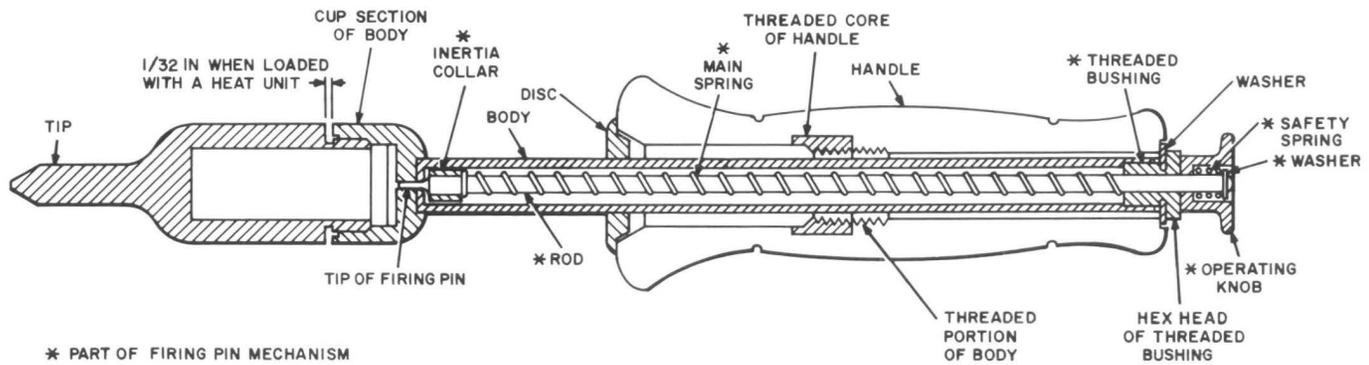

Fig. 2—Section View of KS-14582 L1 Soldering Copper with L5 Tip
3.02 A section view of the KS-14582 L2 soldering copper is shown in Fig. 2. The body of the copper consists of a tube having a cup-shaped section at one end. The heat unit chamber of the tip screws into this cup and a small hole in the bottom of the cup permits entrance of the firing pin to fire the heat unit. The threaded core of the handle screws on the tube and the handle is positioned by a disc secured to the tube. The handle is locked in place against this disc by the hexagonal head of the threaded bushing which screws into the outer end of the tube.
make certain the heat unit is firmly clamped between the bottom of the heat unit chamber (L4 or L5 tip) and the inside top of the cup section of the body and that there is a space between the shoulders of the two of at least 1/32-inch as shown in Fig. 2.